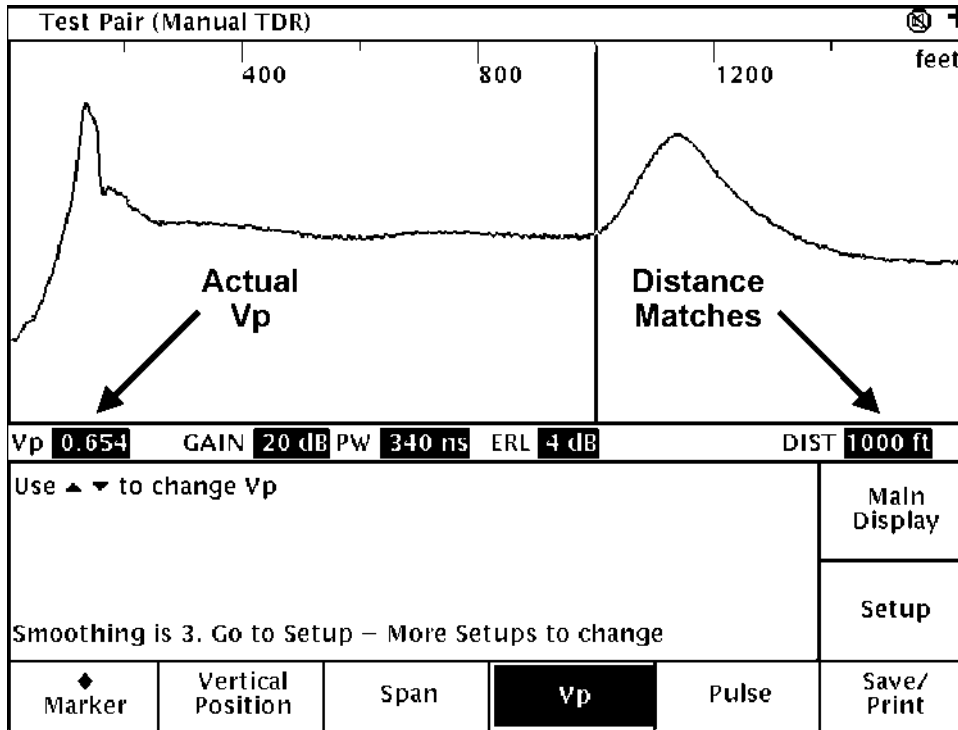

Figure 13-4. Adjusting  $V_p$  until distances match.
Step 13. Use the up and down arrow keys to adjust the  $V_p$  until the distance display matches the known cable length (1000 feet in this example) (see Figure 13-4).